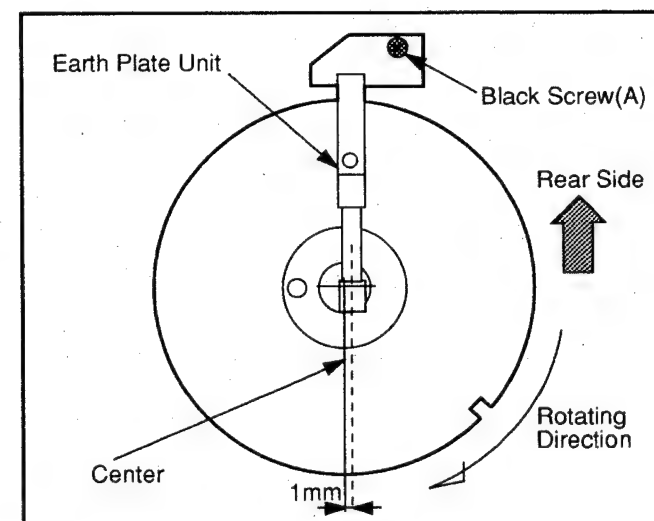

Fig. M6
in Fig. M6. If required, a
Remove the Mechanism Unit. Place it upside down. Check to see if the Earth Plate Unit is properly set in a position just less than 1mm (but not more than 1mm), as measured from the center of the plate to the center of the Cylinder Shaft as shown in Fig. M6. If required, adjust the Earth Plate Unit position by loosening Black Screw (A).